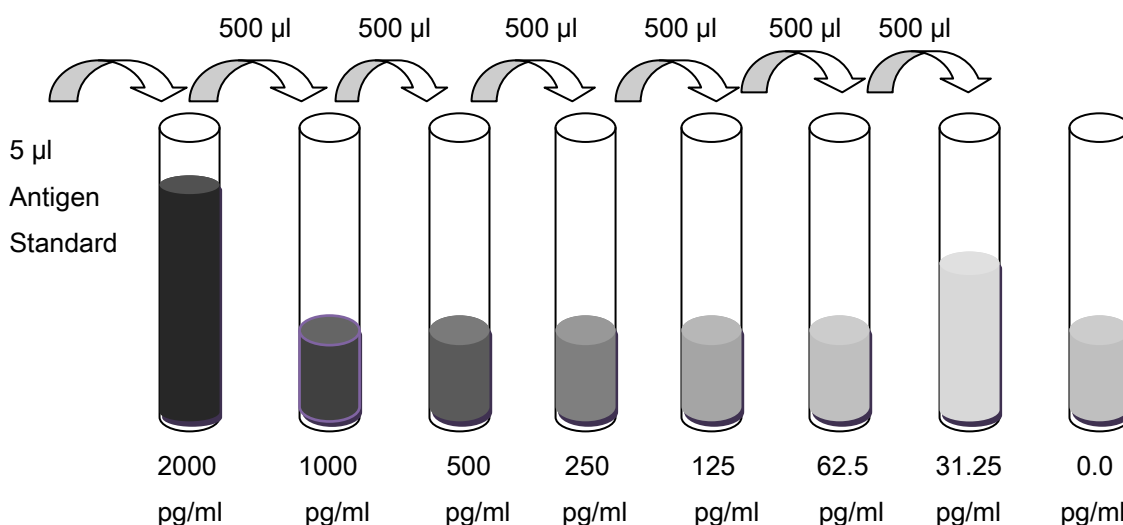

Figure 2: Generating a 1:2 Dilution Series and Negative Control for a Standard Curve.
- iii. Generate a series of 1:2 dilutions by transferring 500 μ l from the first to the second tube, mixing well and then repeating from the second to the third and so forth on up to the seventh tube, as demonstrated in Figure 2.